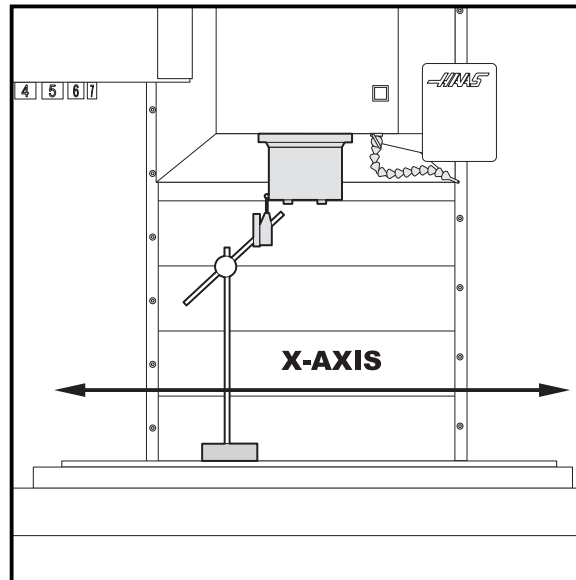

Figure 1-1. Dial indicator in position to check X-axis.
1. Set up a dial indicator and base on the mill table as shown in Fig. 1-1.